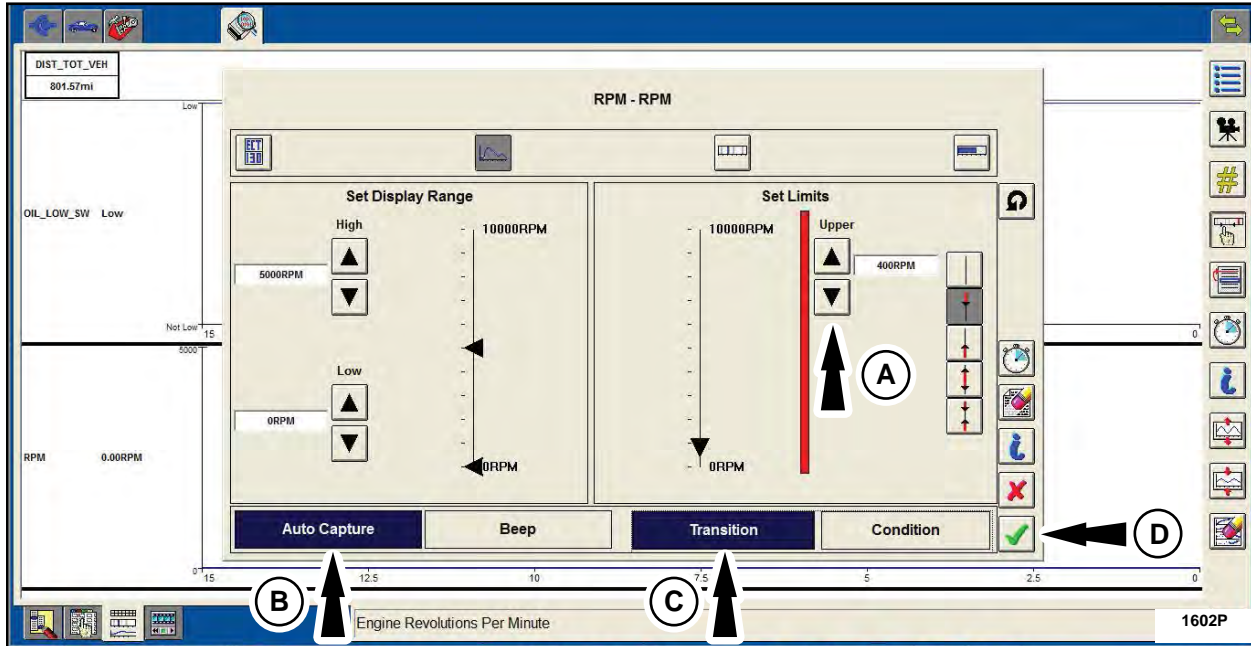

FIGURE 9
8. Set the Auto Capture limits for the RPM PID. See Figure 9.